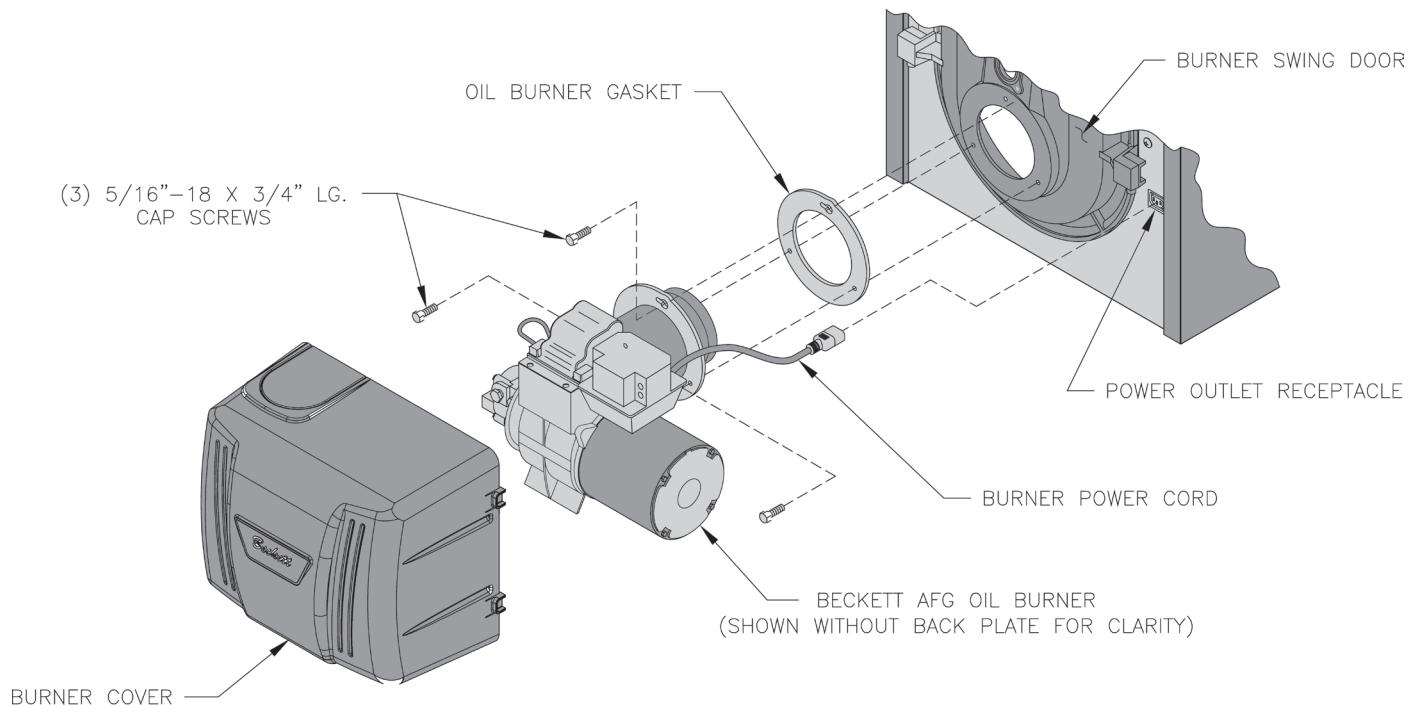

Figure 8: Beckett Oil Burner Installation
5. **Install oil burner.** (See Figure 8)